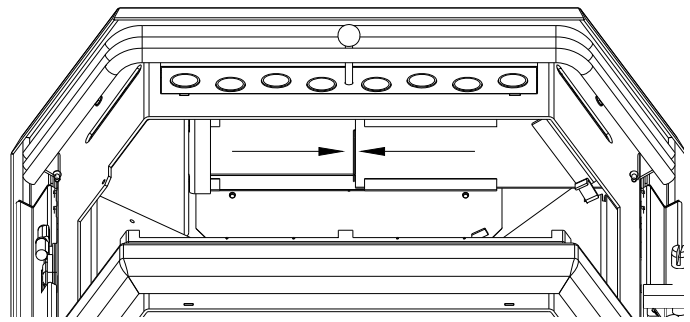

Figure 47
- Open the door and remove the baffle from the firebox. Slide each side of the baffle toward the center to remove (Figure 47). Close the door.
- b. **Baffle:** Remove the baffle and scrape off ashes. Slide both sides toward the center to remove the baffle(Figure 47) Use a vacuum is necessary. In some cases, you will need to remove creosote on the baffle, which can accumulate rapidly under certain conditions. A small wire brush can be used. It is important to remove this creosote because it is highly combustible and could cause premature corrosion.